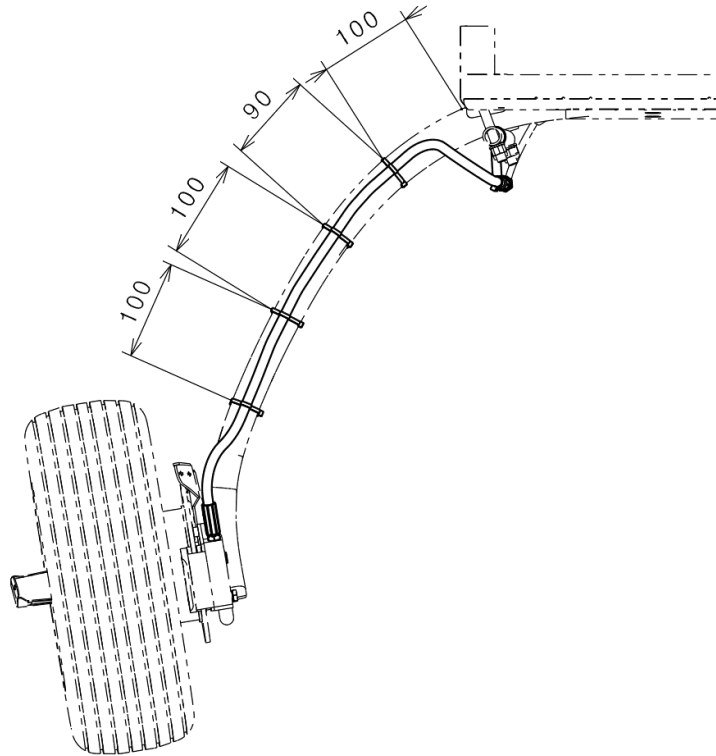

Fig. 3: Main gear leg zip tie position
- 9) Adjust the brake hose as shown (Fig. 3).